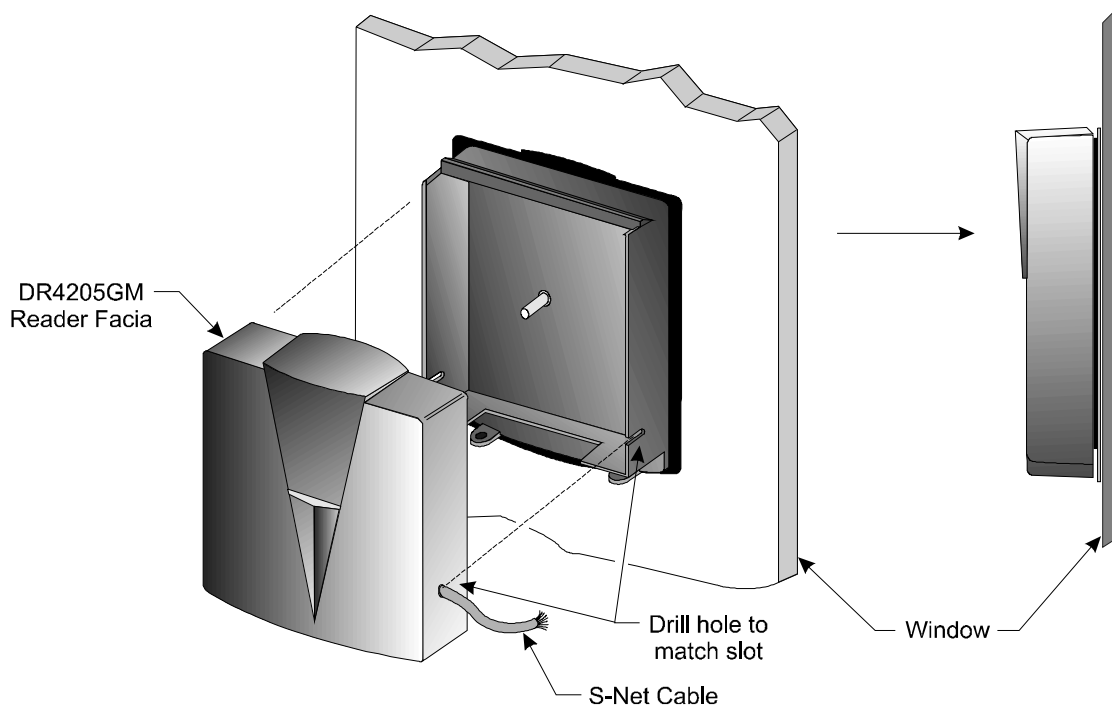

Figure 14: Routing the Cable and Attaching the Facia
Note: To find exact hole location for drilling, look for a circle of smooth area on the side of the facia, where there is an absence of texture in the lexan material. Reference page 16 for cabling instructions. Also see Figure 14 below.
6. Secure the cover as shown in Figure 14.